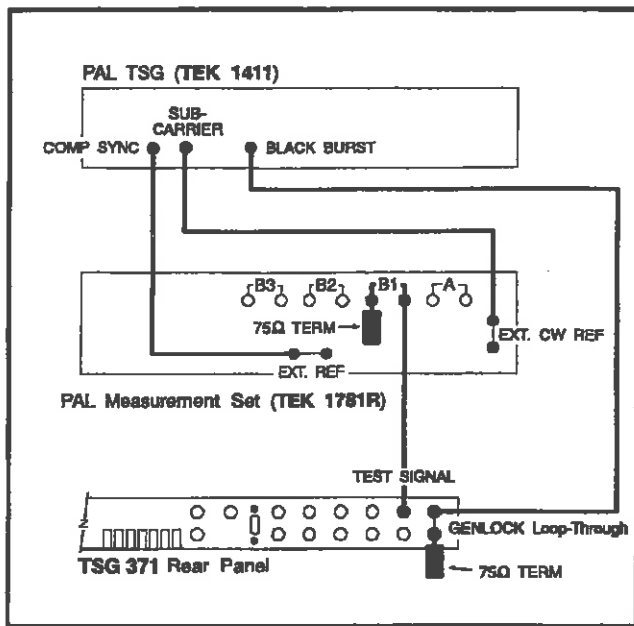

Fig. 5-2.
- Replace the Color Bars signal to the TSG 371 GENLOCK Input with a Black Burst signal. Bypass the step attenuator and connect a termination to the TSG 371 GENLOCK loop-through (see Fig. 5-2).